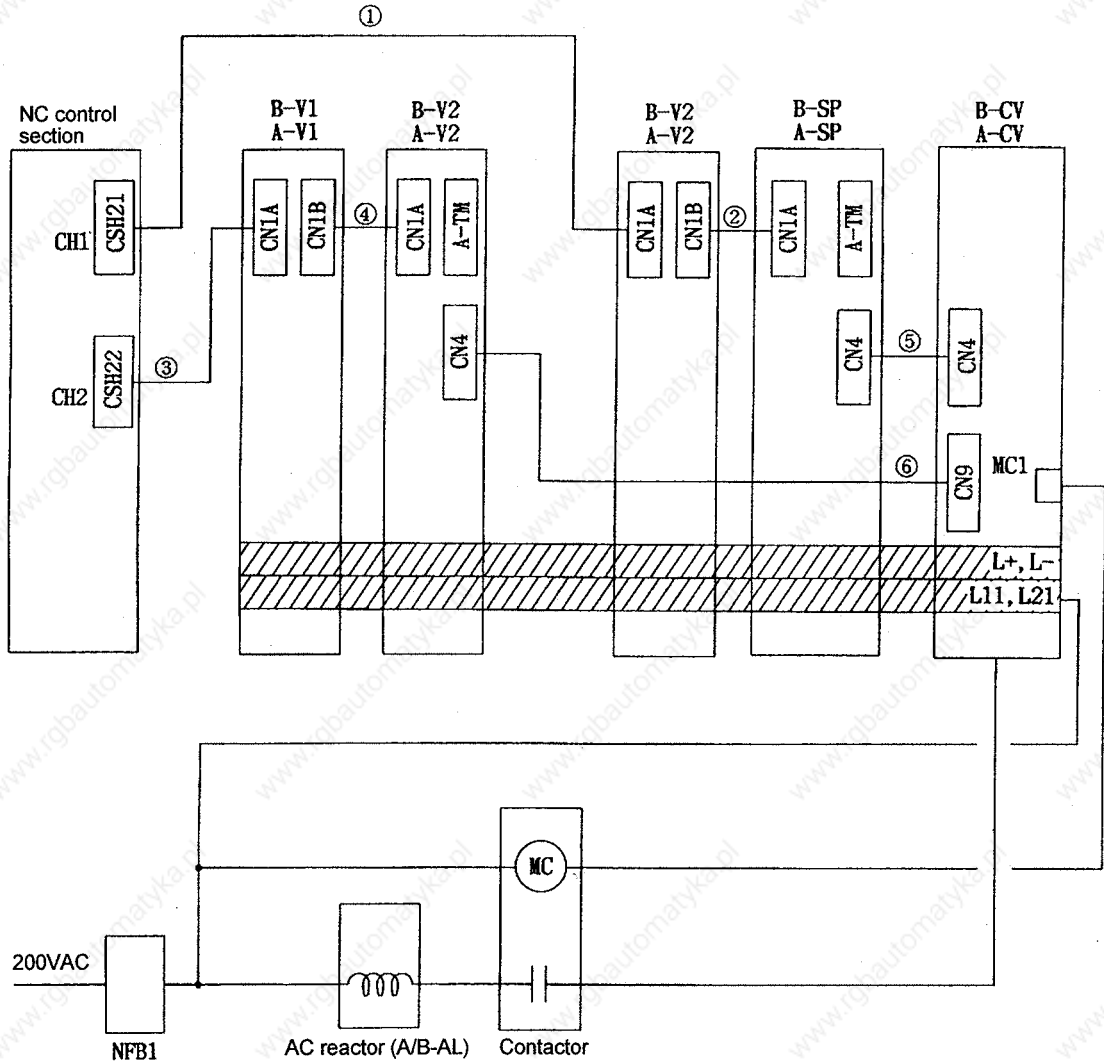

Fig. 2
Connect with the lines ① to ② shown in Fig. 2.
Connect with the lines ③ to ④ shown in Fig. 2.
Connect from the CH1 terminating axis (A/B-SP in Fig.2) with the line ⑤. The pin assignments for cable ⑤ are the same as the standard specifications. (Refer to section 5.2.1.)
Connect from the CH2 terminating axis (A/B-V2 in Fig. 2) with the line ⑥. The pin assignments for cable ⑥ are the same as the standard specifications.